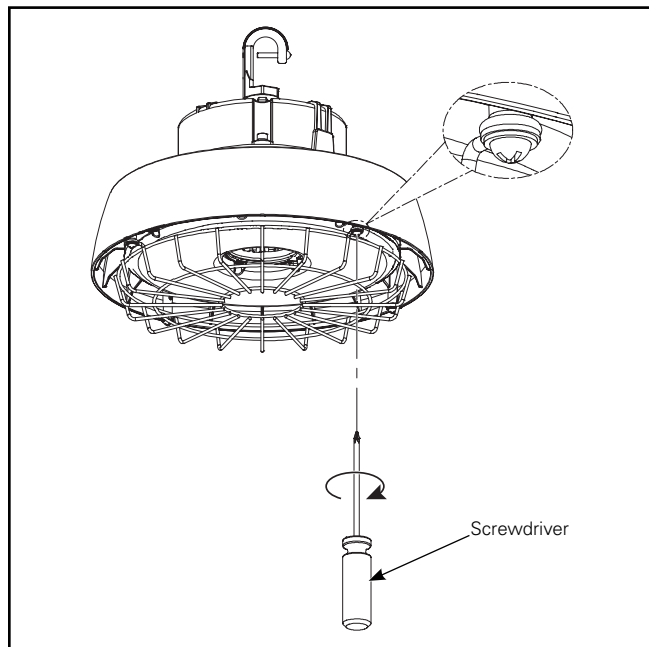

Figure 6.
2. Tighten all four screws. (Figure 6.)